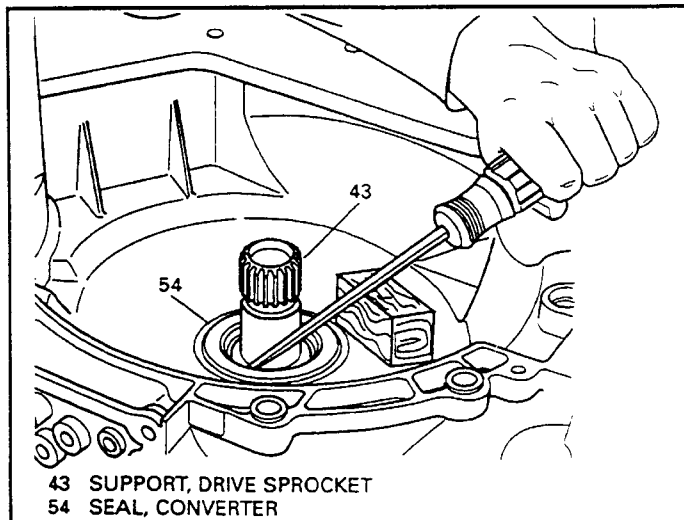

Figure 83
88. Remove the converter seal using a screwdriver or appropriate seal removal tool (Figure 83).